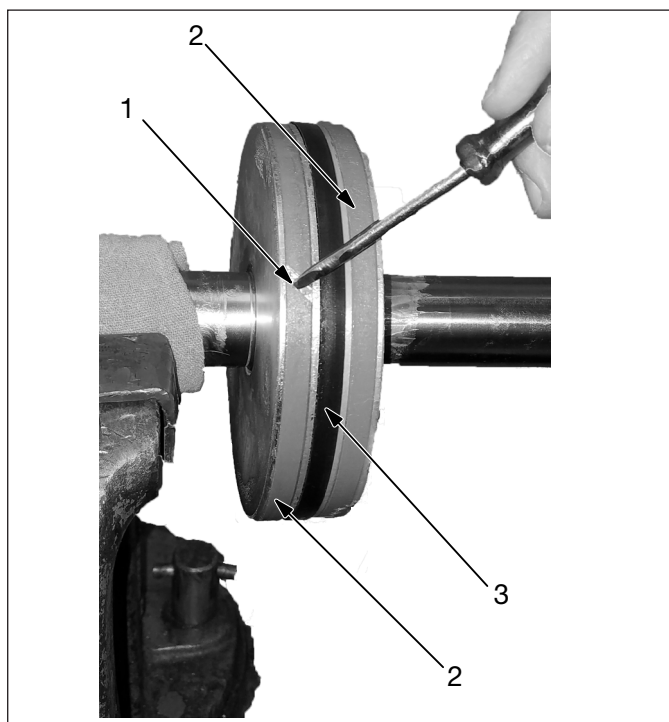
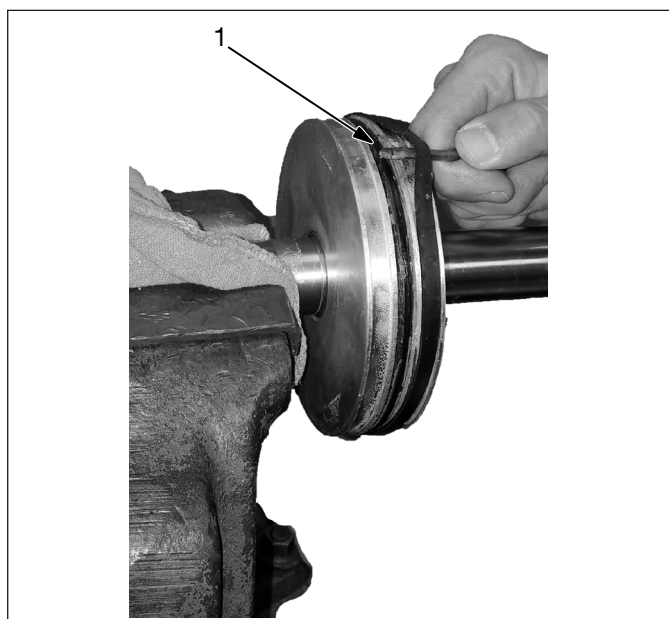

Figure 4, Piston Seal Removal (View 1 of 2)
Figure 5, Piston Seal Removal (View 2 of 2)
2. Pry and remove wear band (Figure 4, Item 2) starting at the scarf cut (Figure 4, Item 1).
4. Using same non-marring blade, pry up outer piston seal (Figure 4, Item 3). While retaining the seal with blade, rotate the blade around the piston until the outer piston seal is loose. Remove outer piston seal.
5. Remove inner piston seal O-ring (Figure 5, Item 1) that was exposed in step 4.
1. Using a clean, lint-free rag, remove old grease and seals (Figure 4, Item 1) from end cap (Figure 4, Item 2).
3. Install inner piston seal O-ring (Figure 5, Item 1) on piston.
4. Install outer piston seal (Figure 4, Item 3) on top of inner piston seal O-ring (Figure 5, Item 1).
5. Install wear band on piston (Figure 4, Item 2).